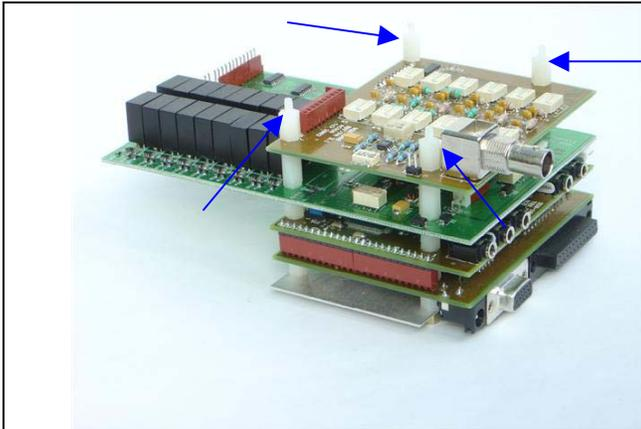

Figure 6 – Nylon spacer installation
4. Install the four 3/8 inch nylon spacers to those protruding through the top of the BPF board as seen in Figure 6 below.